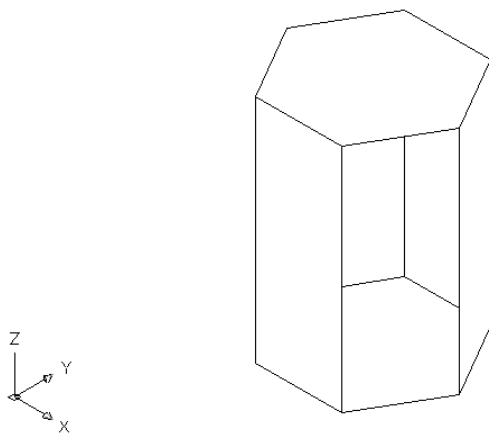

**Figure 23-9:** The completed hexagonal night table.
5. Save your drawing. It should look like Figure 23-9.